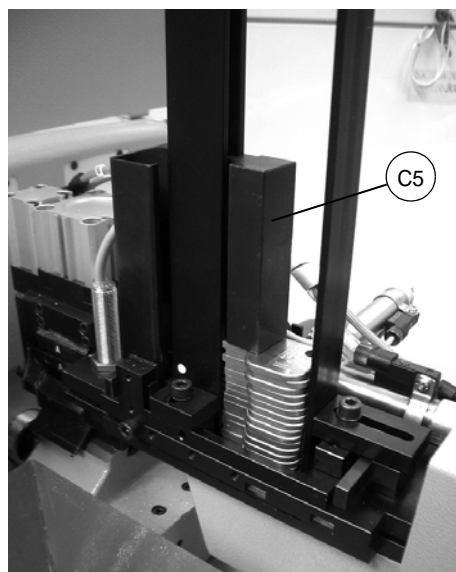

Fig. 12
- 2) Lower the part (C5) so that the presser can descend and press down the inserted keys (fig. 12).